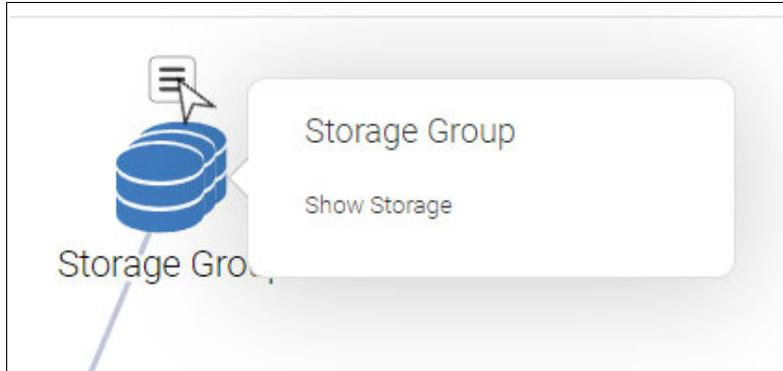

Figure 5-92 Show Storage
- a. Hover your cursor over the group icon, click the hamburger icon, and then select **Show Storage** (or **Show Hosts**) (Figure 5-92).